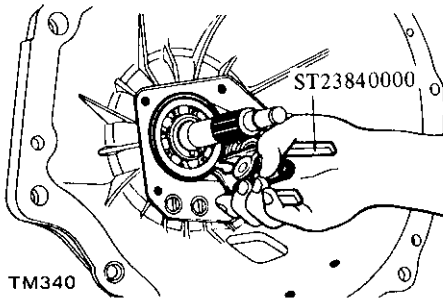

Fig. MT-43 Fitting main drive bearing snap ring
3. Fit main drive bearing snap ring to groove in main drive bearing by using Expander ST23840000. See Figure MT-43.